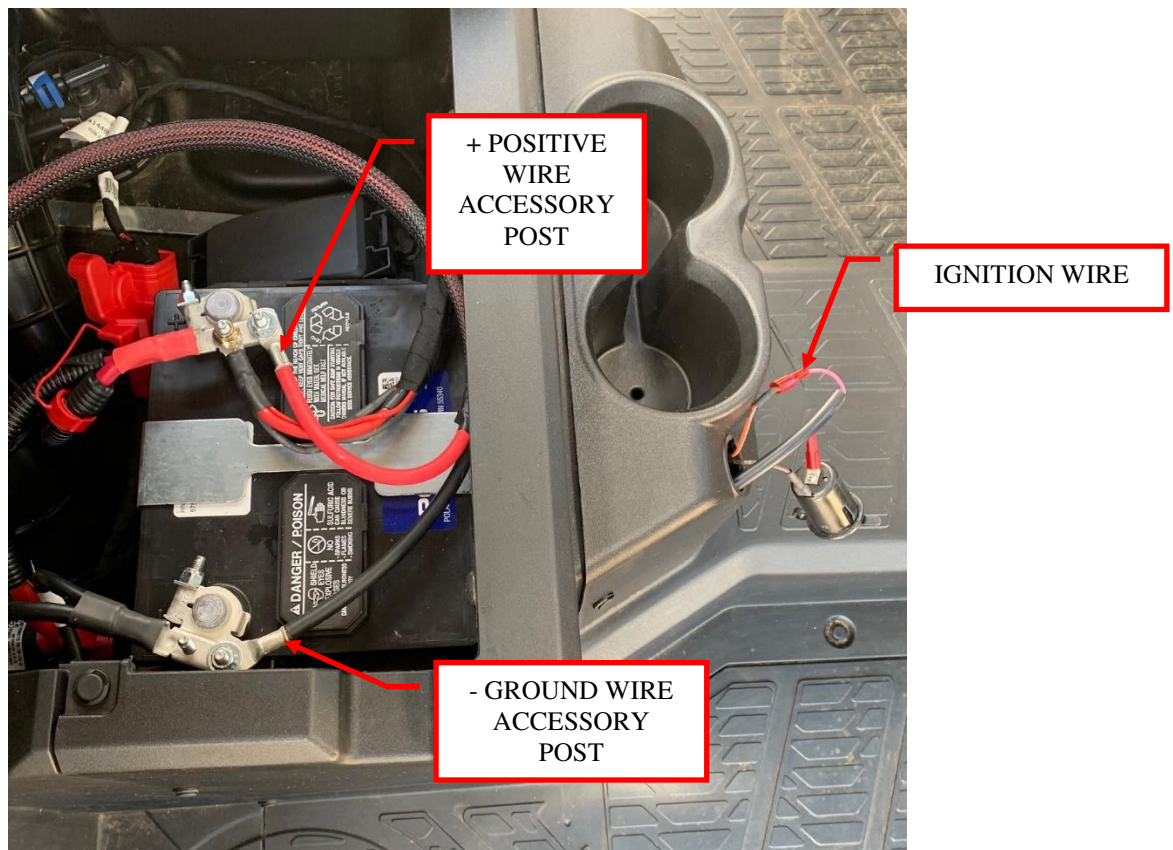

Figure 11: Attach the power wires.
11. Connect the red power wire to the positive terminal of the battery. Connect the black ground wire to the negative terminal of the battery. Use the supplied M6 nut to clamp the cable down to the accessory posts on the battery terminal. See Figure 11.
- Models equipped with Cigar Lighter:** With this configuration, the ignition wire can be connected to the cigar lighter power point ignition source located just in front of the battery. Pry the power point out to access the wiring on the back. Remove the 12V ignition wire from the power point (orange wire with white stripe). Cut the ignition wire on the Audio Shade harness to length and remove / discard the under hood connector. Using Male / Female blade connectors, connect one end of the pink ignition wire on the Audio Shade chassis harness to the ignition wire from the power point. Splice and connect the ignition wire back into the power point. Secure splice with heat shrink and electric tape. Push the power point back into the housing. See Figure 11.